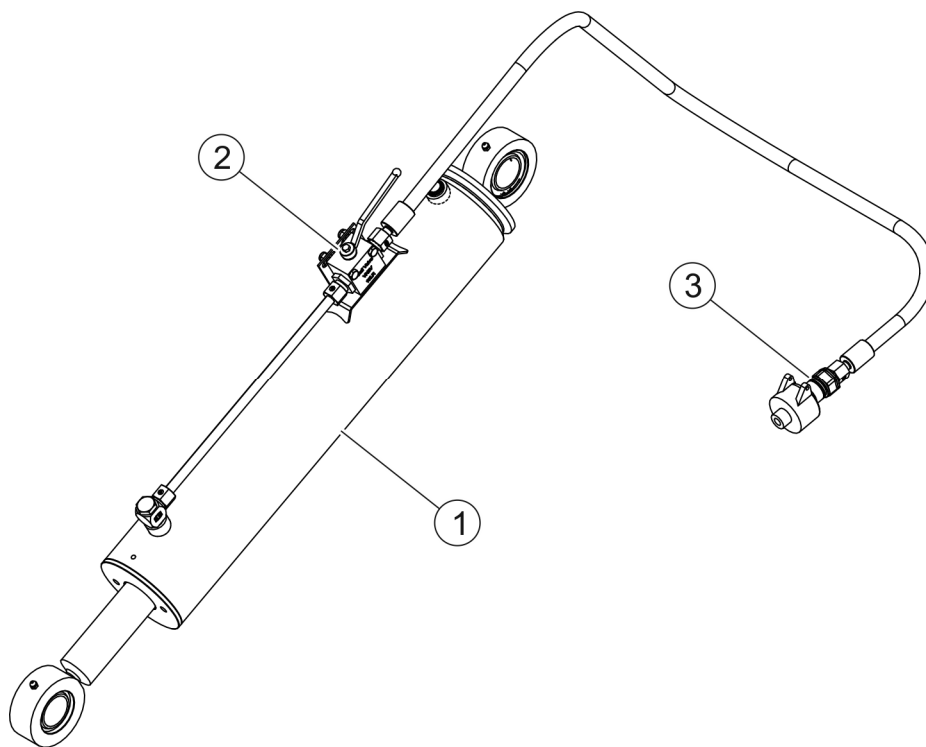

FIGURE 3.5 Hydraulic system design
Hydraulic system (FIGURE 3.5) in the front mower allows raising and lowering of cutting unit. The machine is equipped with a single acting hydraulic cylinder (1). The cylinder is supplied from tractor's external hydraulic system connected to a quick coupler (3) by means of a hydraulic line. The hydraulic cylinder is equipped with a ball valve (2) which allows locking of the hydraulic cylinder in transport position.